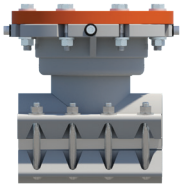

Figure 1
**2)** Inspect the line stop fitting to ensure no damage has occurred during shipment or storage (see Figure 1). Locate and remove completion plug and box containing stainless steel mounting hardware. Store in a clean, safe location.